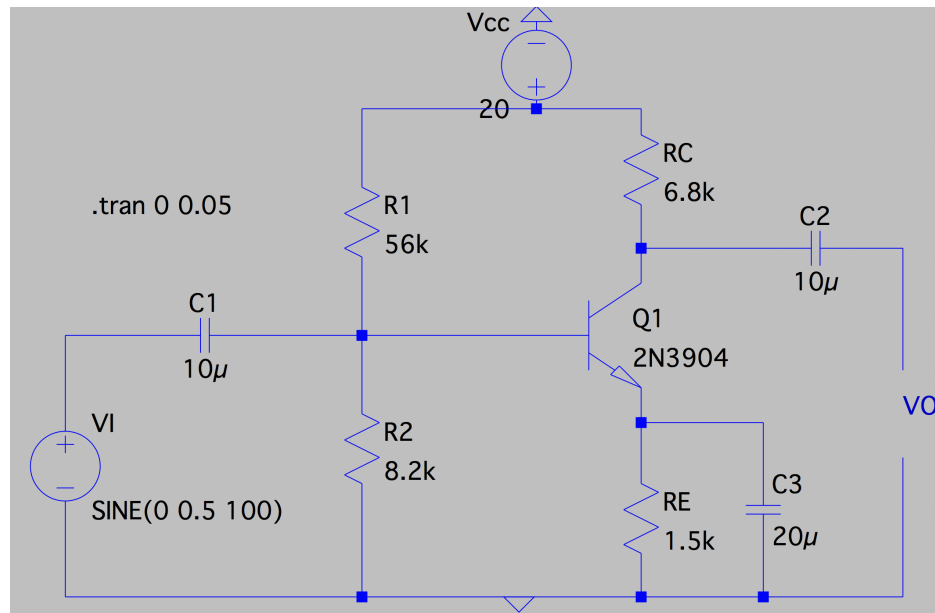

Figure 1: Voltage divider amplifier.
Your task is to design, build and verify the operation of a printed circuit board. The circuit you are going to implement is a BJT voltage divider amplifier, shown in Figure 1. You may replace the 20  $\mu$ F capacitor with a 10 $\mu$ F capacitor.
1. Use LTSpice to simulate the circuit from Figure 1. This will be used to verify the operation of your PCB.